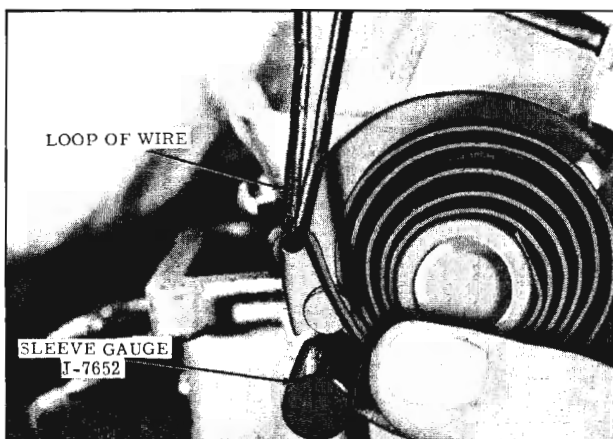

Fig. 13-32 Installing Torsion Spring
16. With the Sleeve Gauge on the gauge bolt, install the torsion spring over the locking arm hub, then rotate the spring until the flat on the spring and hub align. Engage the hook end of the spring over the exterior arm pin as shown in Fig. 13-32.